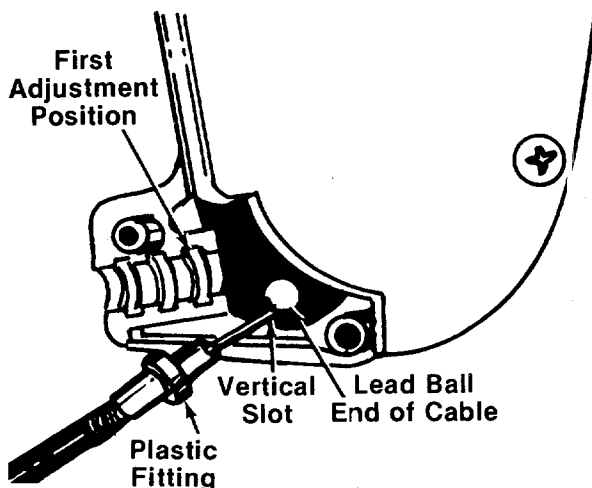

FIGURE 9.
- a. Place the lead ball end of the cable into the fitting provided in the end of the clutch control lever. Slip the braided wire into the vertical slot as shown in figure 9.
- c. Place the plastic fitting on the control cable into the first adjustment position in the clutch control housing. See figure 9.
When starting the unit for the first time, face the mower against a solid object such as a wall, fence, etc. Start the unit, and if it shows any signs of motion with the drive clutch control disengaged, shut the engine off immediately. Check the position of the drive clutch control cable. The plastic fitting must be assembled in the first adjustment position inside the housing, all the way to the right, as shown in figure 9.